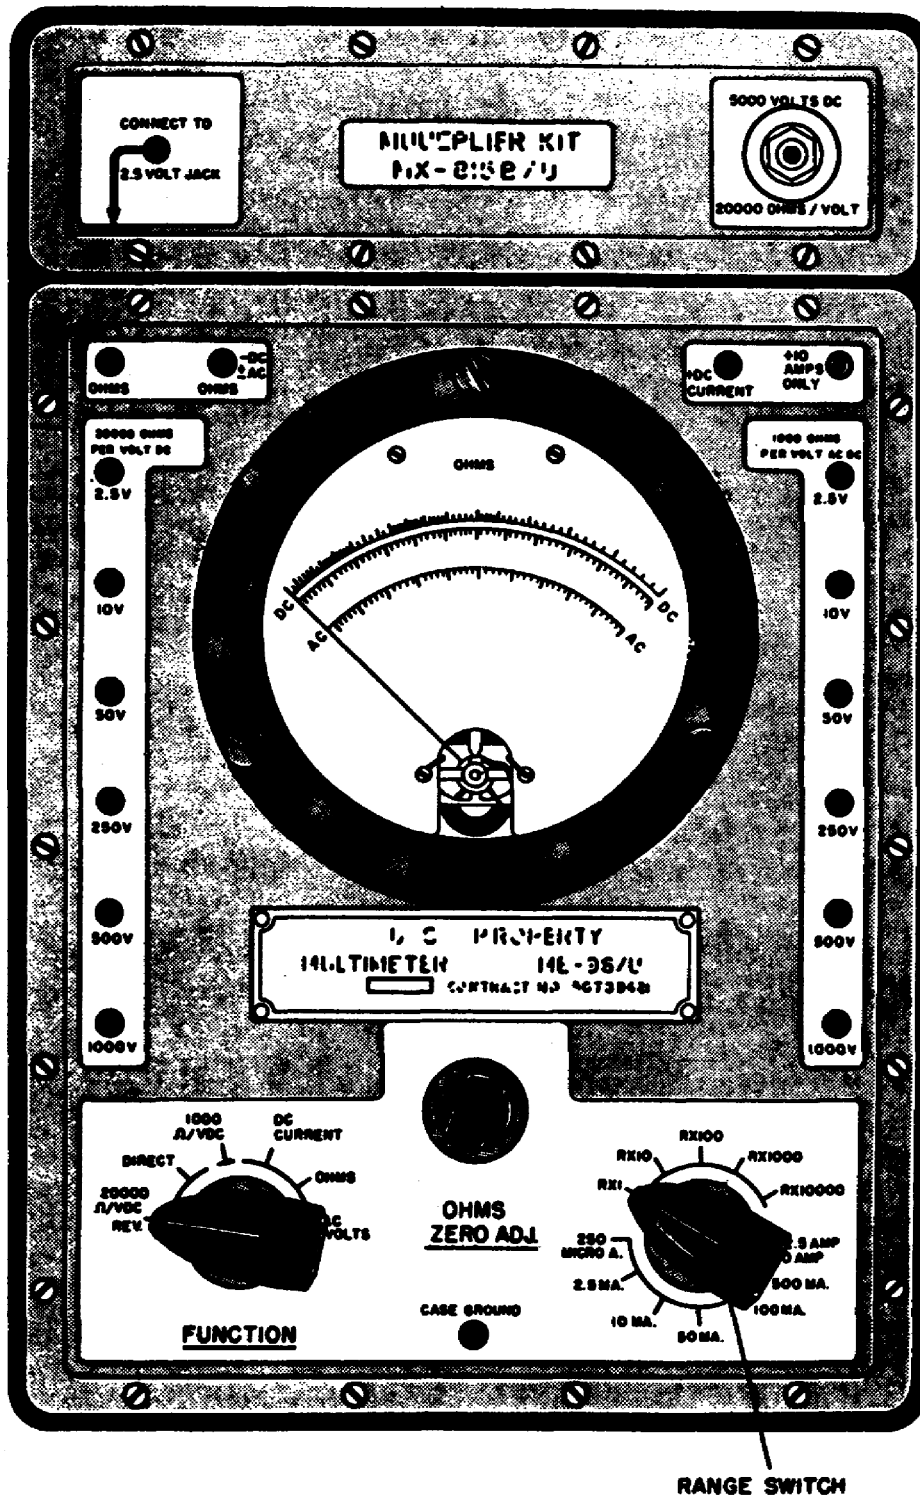

Figure 15. TS-352 B/U multimeter.
a. Multimeter TS-352 B/U (fig 15) is a multirange AC and DC volt-ohm-milliammeter using a single moving coil, 50-microampere meter of the D'Arsonval type, with appropriate scales marked to indicate AC and DC volts, DC current, and resistance in ohms. The voltmeter circuit is essentially a meter with series multiplier resistors. The multiplier resistors are the same for AC and DC measurements. However, since the meter is a DC milliammeter, the AC voltage input must be rectified before being applied to the meter.. Wafer switches are used in the switching circuits to control the functions and ranges of the multimeter. All meter shunt resistors and some multiplier resistors are selected by the positioning of the contacts in the switching circuits. The switching circuits also connect the battery, or batteries, and appropriate shunt and series resistors into the necessary circuit arrangements for resistance measurements in the different ohmmeter ranges.